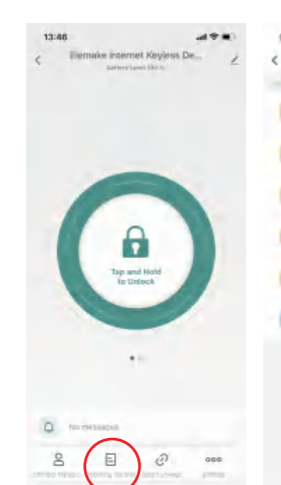

Figure P-11
(11) Record of deadbolt unlocking history(See Figure P-11)